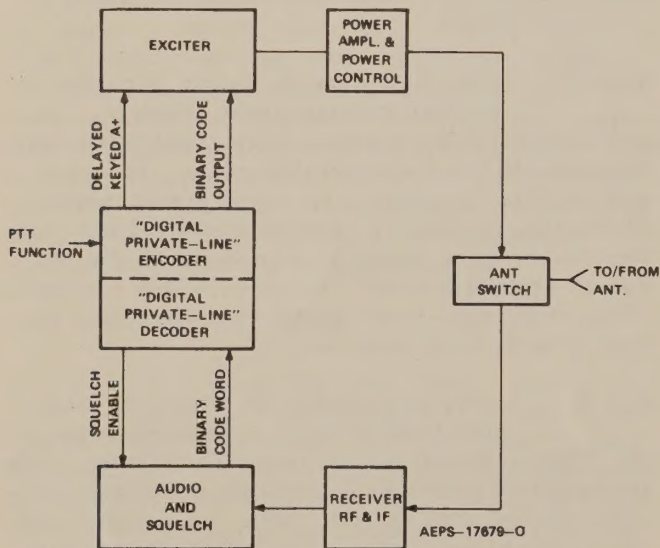

Figure 2.
4.2.1 Refer to Figure 2, Basic Simplex "Digital Private-Line" System. In any simplex radio system, keying the transmitter disconnects the receiver; therefore, transmit and receive functions are never simultaneous. Similarly, in simplex "Digital Private-Line" operation the code cannot be transmitted and received simultaneously. Because of this a simplex "Digital Private-Line" system requires only one code plug in each radio set.
4.2.2 In the application of Figure 2, the push-to-talk function is applied to the "Digital Private-Line" encoder circuits. This immediately produces delayed keyed A+ and activates the encoder circuit. With the encoder activated, the binary code is applied to the exciter as long as the PTT function is applied, and the binary code is transmitted.